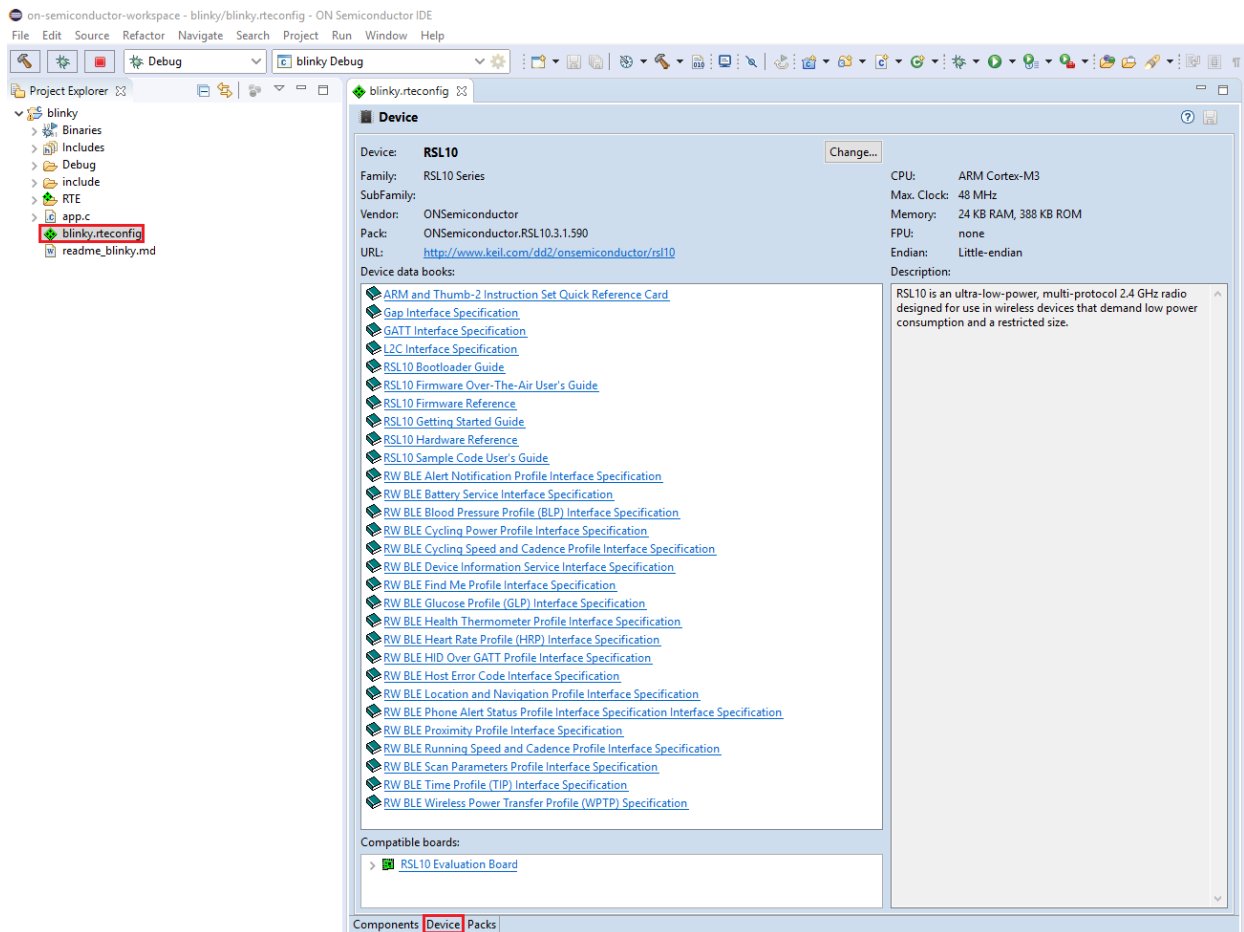

Figure 54. Accessing RSL10 Documentation from the onsemi IDE
- onsemi IDE: documentation is accessible through the C/C++ perspective by opening any RTE configuration file, such as *blinkyrteconfig*, and selecting the tab **Device** (see Figure 54, below).